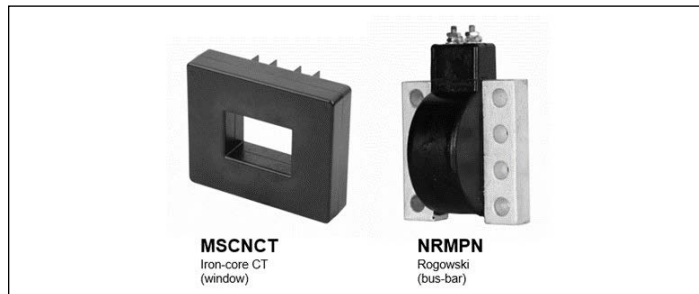

Figure 3. CT and Rogowski neutral sensors
For ANSI circuit breaker ratings 4000 A and above, the Magnum™ PXR and Power Defense™ SB (PD-SB) circuit breakers are designed in a double-wide configuration. The circuit breaker is configured with two poles and buses for each phase and neutral. If the neutral is used and is external to the circuit breaker, then there should be a current sensor on the neutral for residual ground protection. If there are two buses, then there should be a neutral sensor on each. For this application, Eaton recommends the use of current transformer (CT) neutral sensors so that the current sources can be paralleled to get the correct current signal to the circuit breaker trip unit. Rogowski sensors can be used as neutral sensors in standard applications but are not recommended for split neutral bus applications except in four-pole circuit breakers. When external Rogowski sensors are used, the output signals are low voltage and need to have special wiring considerations. **Figure 3** shows the two types of neutral sensors: CT neutral sensor Catalog No. MSCNCT and Rogowski sensor Catalog No. NRMPN.